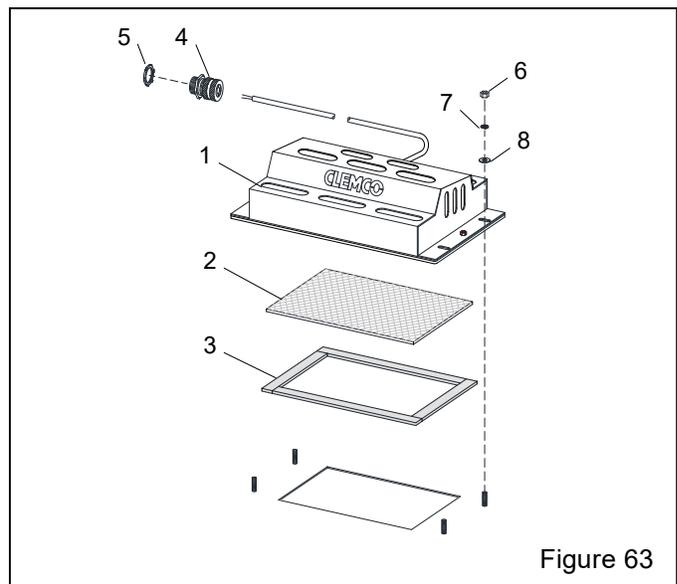

Figure 63
**10.6 LED Light Assembly – Figure 63**